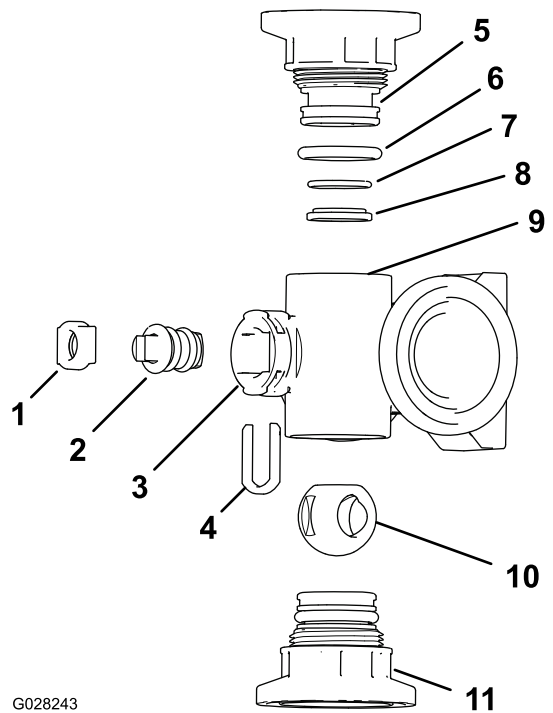

Figure 120
2. Remove the 2 end-cap-fitting assemblies from each end of the manifold body (Figure 120 and Figure 121).
- Remove the stem retainer from the slots in the stem port in the manifold (Figure 120 and Figure 121).
- Remove the stem retainer and valve stem seat from the manifold (Figure 120 and Figure 121).
- Reach into the manifold body and remove the valve-stem assembly (Figure 120 and Figure 121).
- Check the condition of the outlet fitting O-rings (section valve manifold only), end cap O-rings, back seating O-rings, and ball seat for damage or wear (Figure 120 and Figure 121).
- Apply grease to the valve stem and insert it into the valve stem seat (Figure 120 and Figure 121).
- Install the valve stem and seat into the manifold and secure the stem and seat with the stem retainer (Figure 120 and Figure 121).
- Ensure that the back seating O-ring and the ball seat are aligned and seated into the end-cap fitting (Figure 120 and Figure 121)
- Install the end-cap fitting assembly onto the manifold body until the flange of the end-cap fitting touches the manifold body (Figure 120 and Figure 121), then turn the end-cap fitting an additional 1/8 to 1/4 turn.